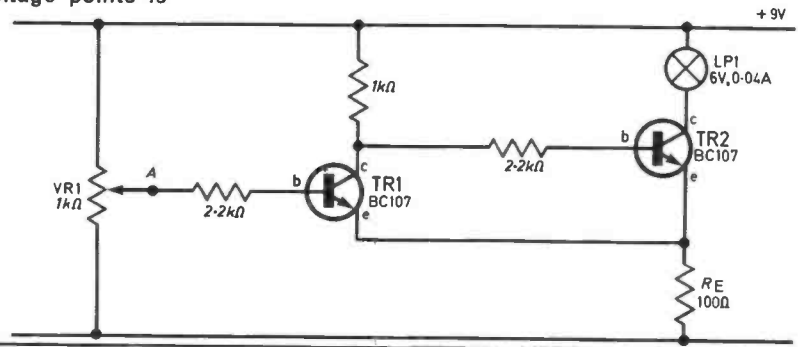

Fig. 14C.1. Circuit diagram of a Schmitt trigger.
1. Assemble the components on the Circuit Deck according to circuit diagram Fig. 14C.1, leaving the slide control of VR1 down at the bottom end. The lamp should be on and TR1 off. Leave a voltmeter connected between point A and ground.